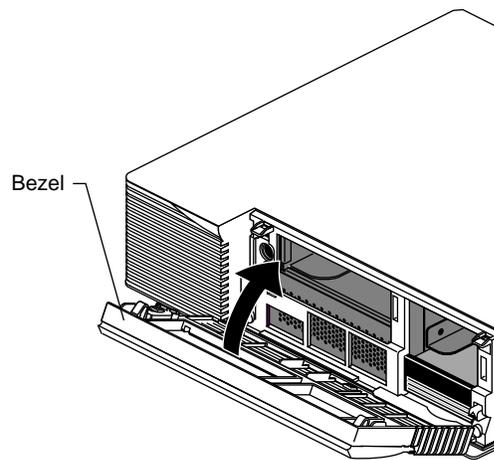

Figure 2-34 Replacing the Bezel
3. Replace the bezel (Figure 2-34).